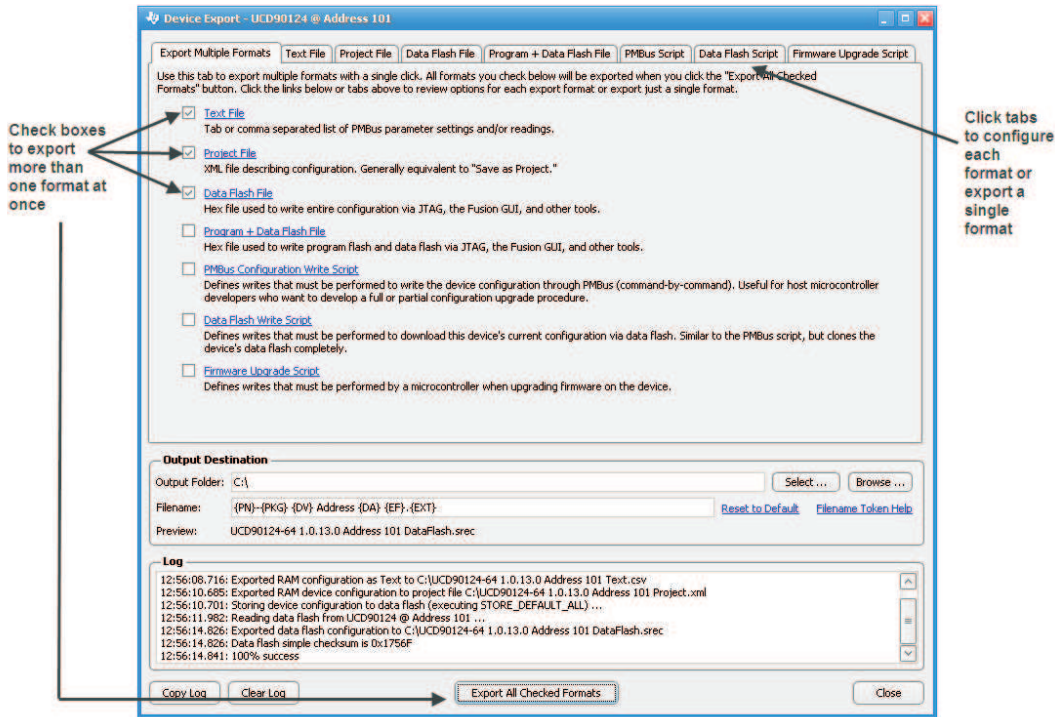

Figure 32. Fusion GUI Device Configuration Export Tool
3. Another in-circuit programming option is for the *Fusion GUI* to create a data flash image from the configuration file (Figure 32). The configuration files can be exported in Intel Hex, Serial Vector Format (SVF) and S-record. The image file can be downloaded into the device using I2C or JTAG. The *Fusion GUI* tools can be used on-board if the *Fusion GUI* can gain ownership of the target board I2C bus.